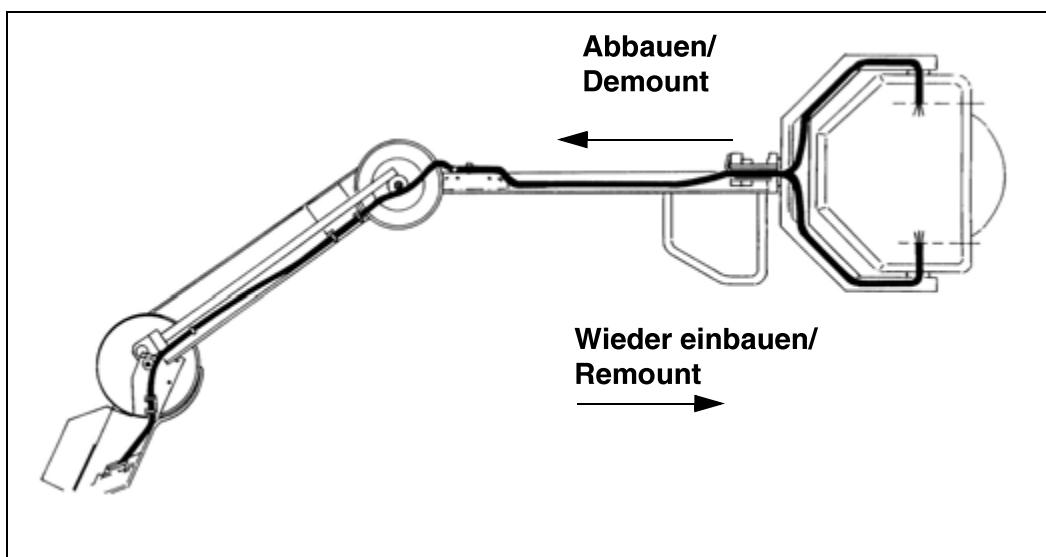

Fig. 58: Replacing the cables
- Separate the chassis connections and remove the cables (Fig. 58 / p. 66).